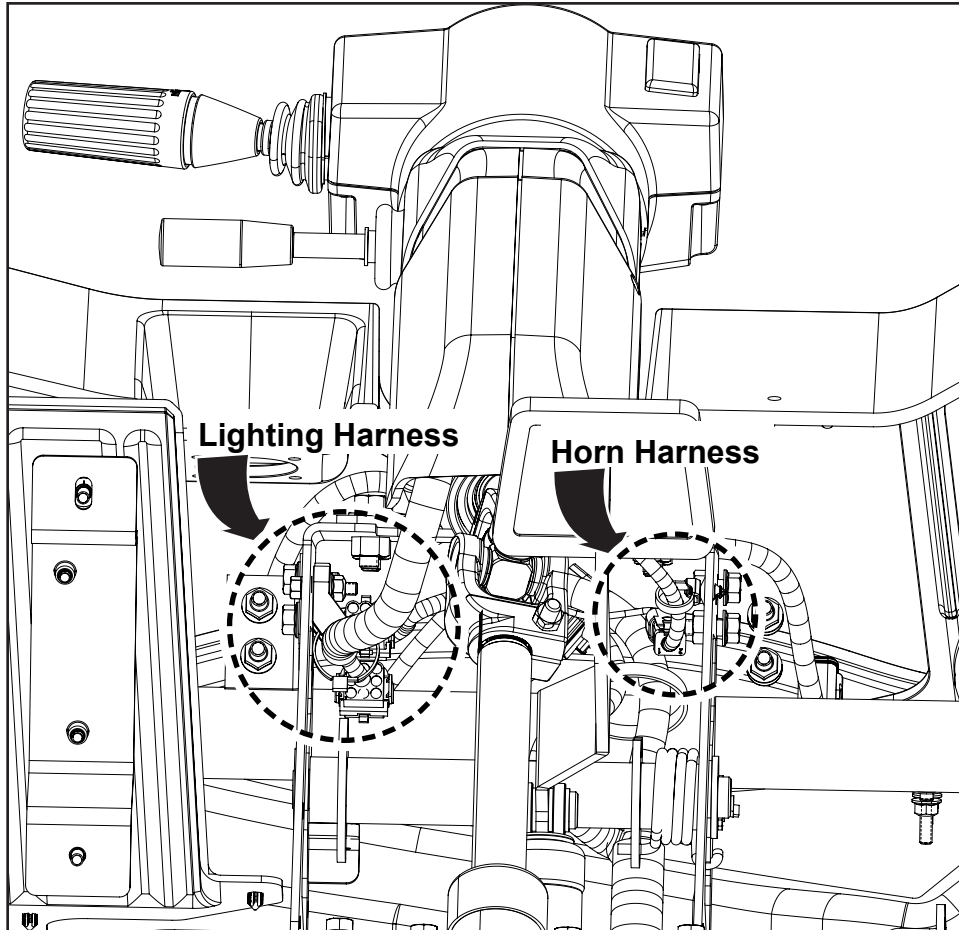

Figure 2
4. Verify the head lamp harness and horn harness are secured correctly, and are routed clear of the steering column yoke. The mounting holes for securing harnesses already exist. If not installed as shown, proceed to step 5 (see *Figures 2, 3 and 4*).